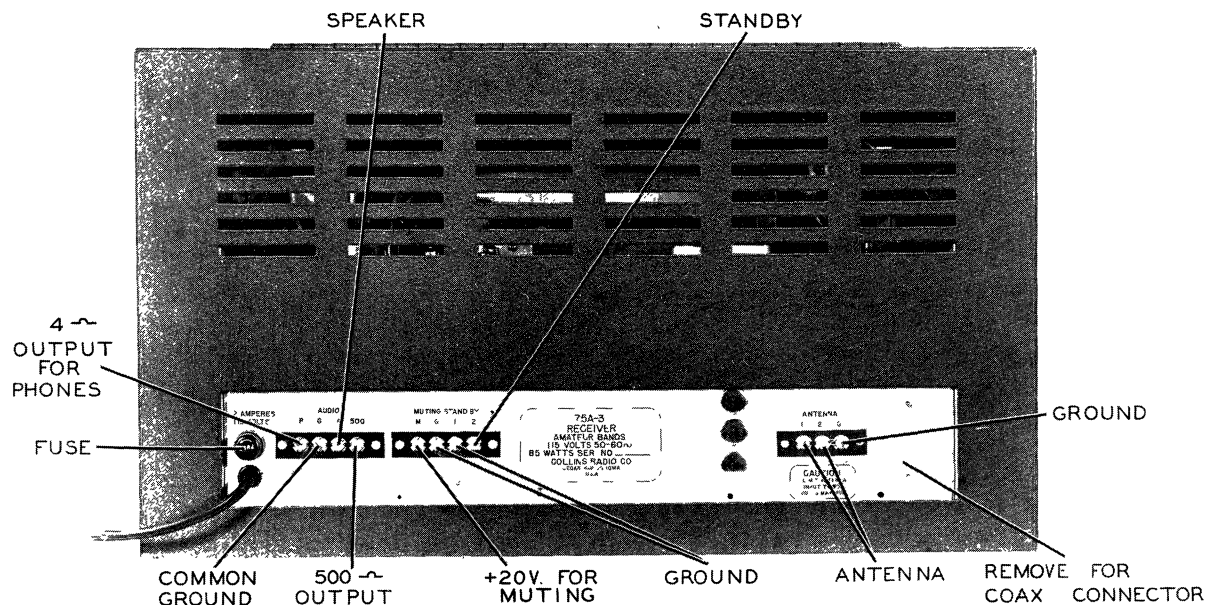

Figure 2-1. 75A-3 Receiver, Rear View
2. EXTERNAL CONNECTIONS (see figure 2-1).